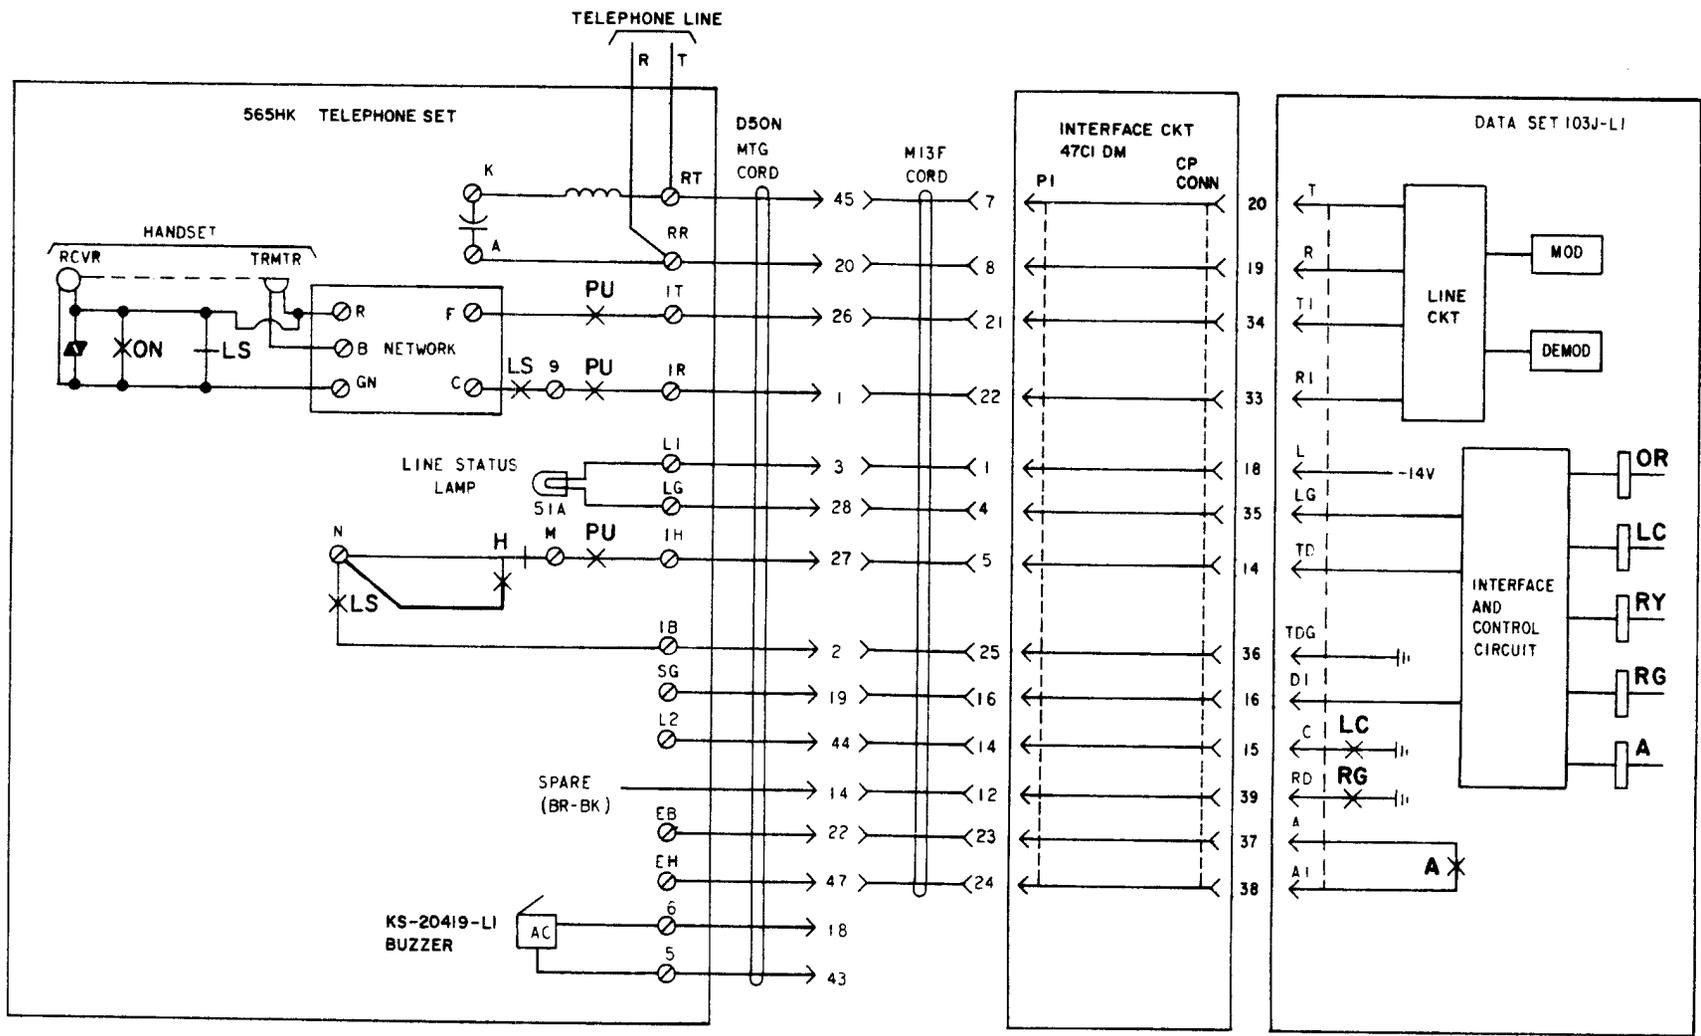

Fig. 5—Interface Between Telephone Set and Data Set Line Control
4.03 Figure 5 shows a simplified diagram of the telephone set, interface, and the data set.